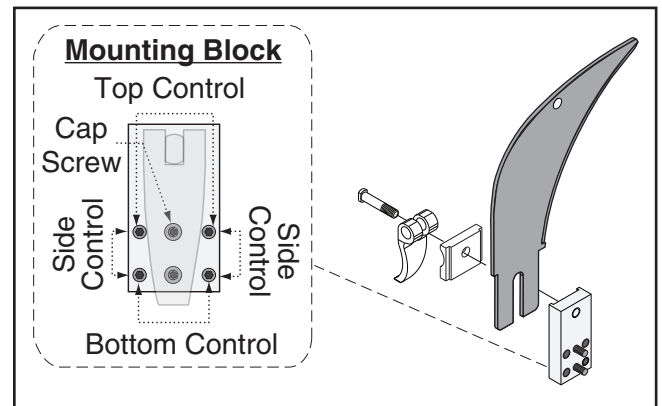

Figure 113. Set screws for adjusting spreader/ripping knife position.
Figure 113 shows the set screws associated with controlling the mounting block position.
4. Loosen the two cap screws on the mounting block, then adjust the set screws on the block to move it in the necessary direction (see "Mounting Block" inset in **Figure 113**).